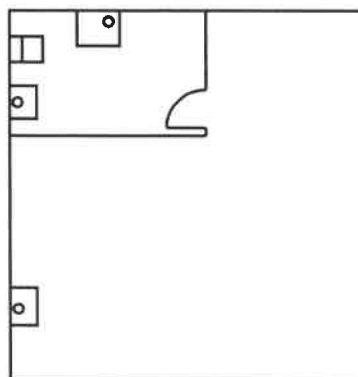

FIGURE 3.3
- 3.3 FIGURE 3.3 below shows an incomplete drawing of the layout of a drainage system for a house. Study the drawing and answer the questions that follow.